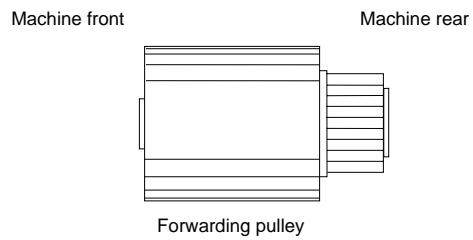

Figure 3-3-7
- When fitting the forwarding pulley, orient it correctly as shown in Figure 3-3-7.